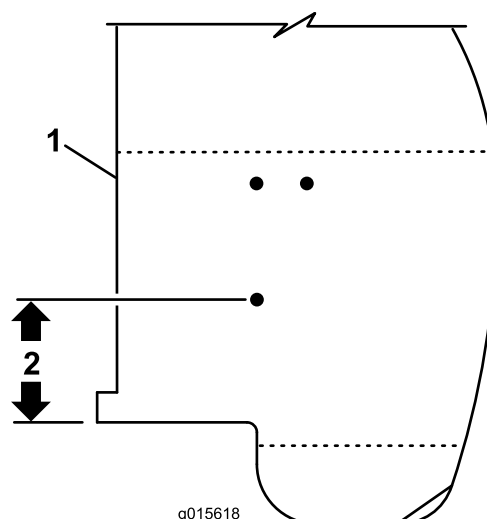
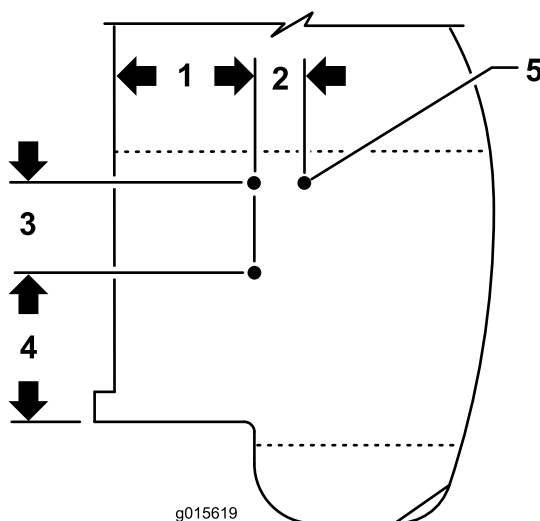

Figure 2
Figure 3
- If the rear hole is located 7.0 cm (2-3/4 inches) from the edge of the fender as shown in Figure 2, relocate the holes. Use the dimensions in Figure 3